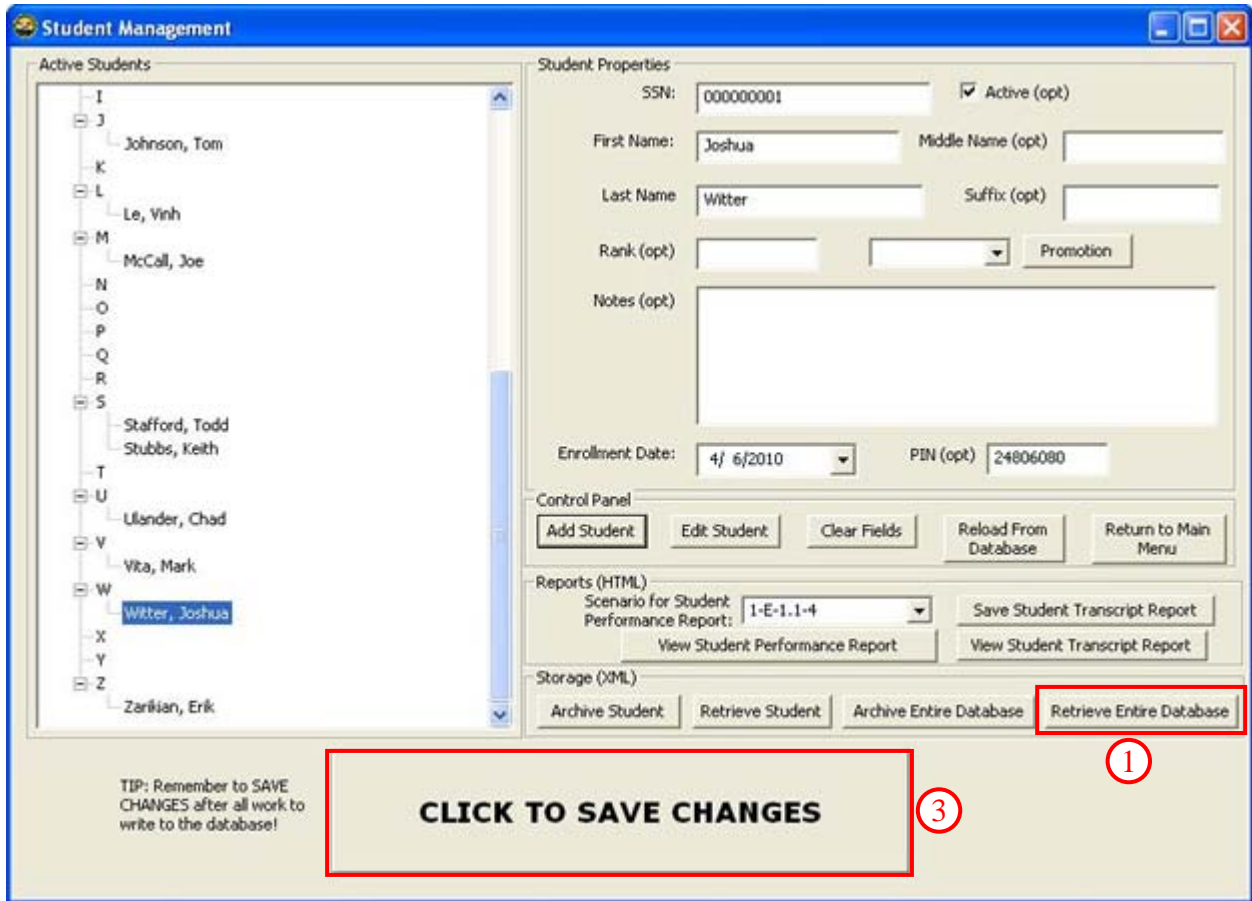

Figure 65. Student Management - Retrieve Entire Database
1. Click the [RETRIEVE ENTIRE DATABASE] button (Figure 65).